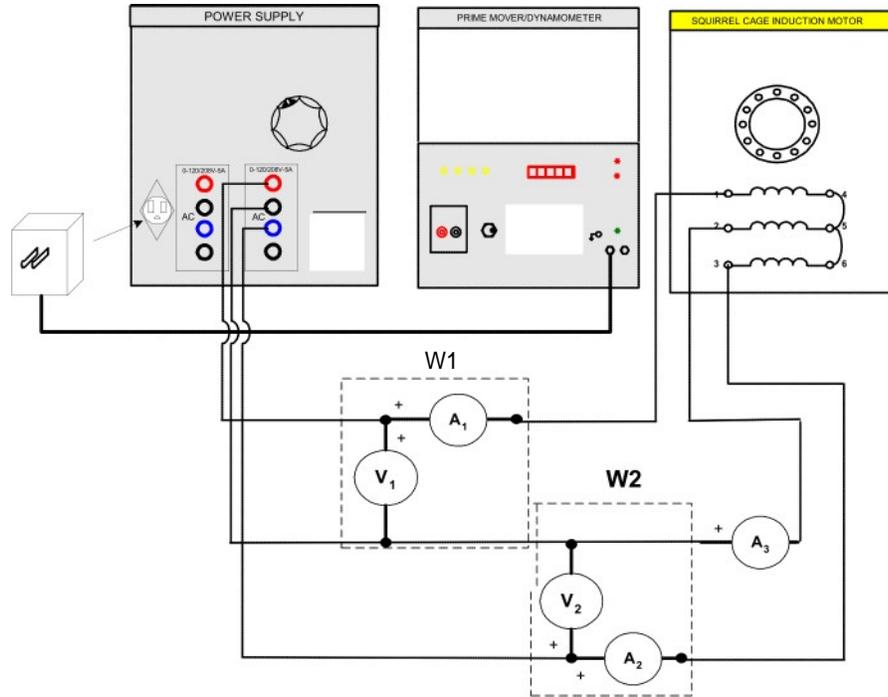

FIGURE 7.10
Step 4: a) Connect the circuit shown in Figure 7.10. Do not couple the motor to the dynamometer at this time!